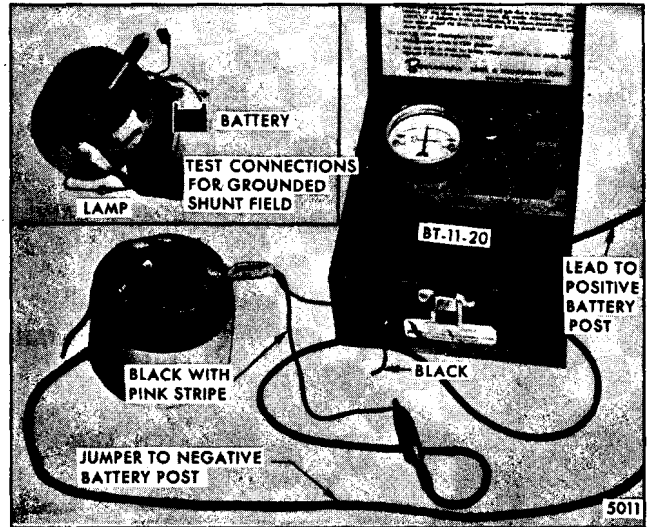

Fig. 2-35-Testing Field Coils
2. Disassemble motor section of wiper and check for grounded shunt field coil (Fig. 2-35).